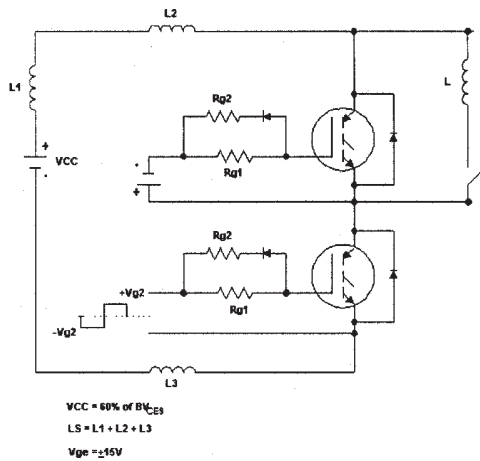

Fig. 17 - Test Circuit for Measurement of I_{LM} , E_{on} , $E_{off}(\text{diode})$, t_{rr} , Q_{rr} , I_{rr} , $t_{d(on)}$, t_r , $t_{d(off)}$, t_f
- ① Repetitive rating; $V_{GE} = 20V$, pulse width limited by max. junction temperature.
- ② See fig. 17
- ③ For screws M6.
- ④ Pulse width 80 μ s; single shot.